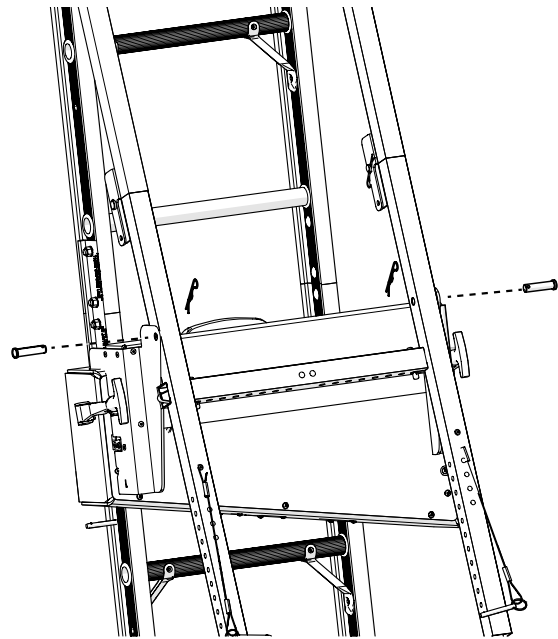

Fig. 5-3
4. Insert the clevis pin into the pivot point hole through the frame and tilt back mount. Secure the pin by attaching the safety pin. Repeat for opposite side. See Fig. 5-3